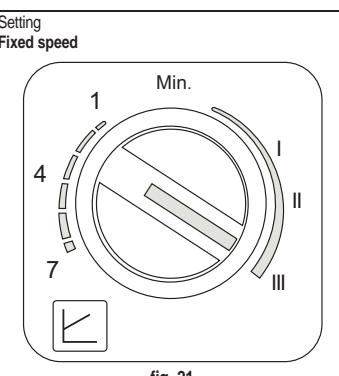

fig. 21
- Setting Fixed speed (fig. 21)